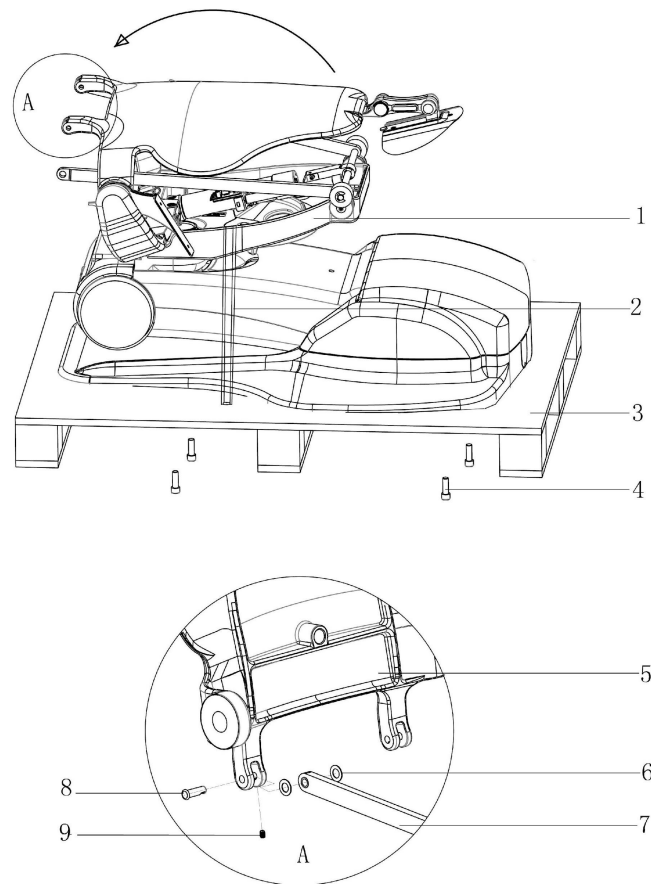

Figure 1. Dental Chair Unboxing and Assembly
2. Use a Philips screw driver to remove 4 shipping screws ④ on the bottom of the wooden shipping pallet ③. Use scissor to cut the shipping straps ②, then move dental chair ① from the shipping pallet to the ideal location for installation.
3. Take out two connector pins ⑧ located at the bottom of the backrest ⑤. Slowly rotate backrest ⑤ so that the backrest connector holes are aligned with the seat frame support holes ⑦ as shown on Figure 1.A. Put connector pins ⑧ through the backrest connector holes and seat frame support holes on both sides. Do not forget to put nylon washers ⑥ in between of connector holes as shown on Figure 1.A.
4. Verify connector pins are installed correctly. Secure them with set screws ⑨.